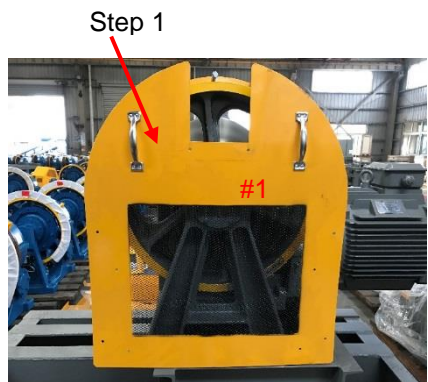

Figure 1 - Install Main Guard
**Step 1:** Install Main Sheave Guard [#1] to Rope Retainer using (2) wing bolts, flat washers, and lock washers. See Figures 1 and 2.